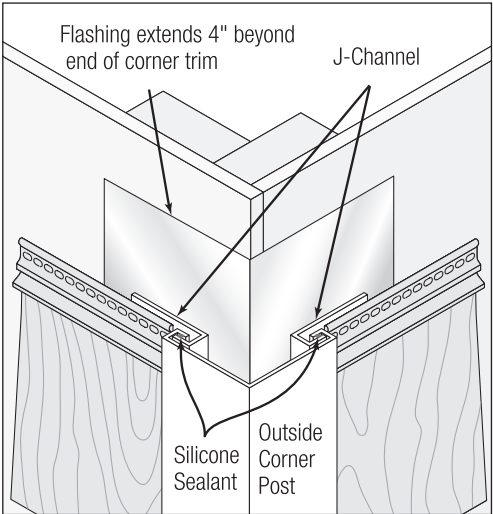

Fig. 3
- On outside corners, apply silicone sealant to the inside edges of the Foundry Outside Corner Post (**Fig. 3**).